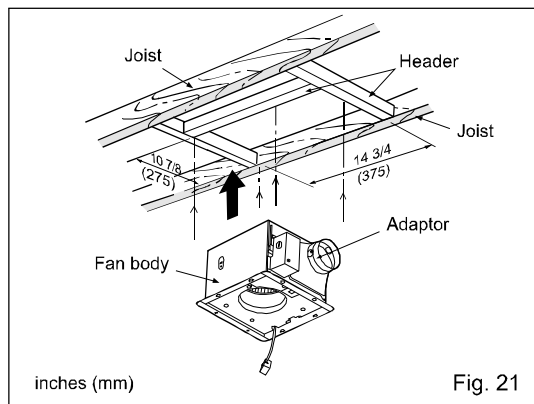
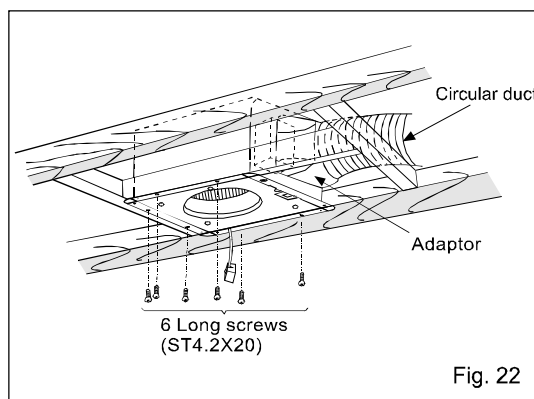

Fig. 21
Fig. 22
3. Install the fan body and secure it by using long screws (ST4.2X20). (Fig. 21, Fig. 22)